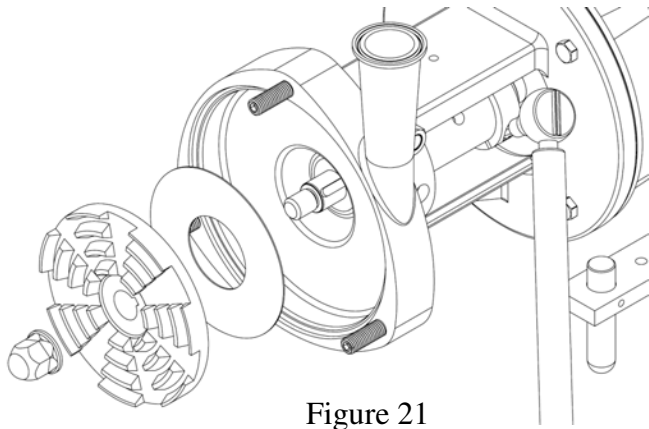

Figure 21
4. With the seal driver, the thinnest shim (SB models) and key on the stub shaft, slide the clearance shim and impeller on to the stub shaft and tighten the impeller nut on the stub shaft, figure 21. While pushing the impeller nut, impeller, and shaft collar towards the motor slightly pinching the impeller clearance shim, tighten the socket head cap screw in the shaft collar. Torque the socket cap screw to the right torque value that correlates to the frame size of the motor. When the shaft collar screw is not torqued to the correct value the shaft may move during pump operation although the shaft cannot be moved by hand along the motor's axis. Torquing the shaft collar screw more than the recommended value may break the screw.